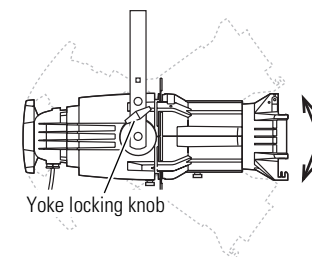

Figure 11
2. Tilt the fixture to the desired position (**Figure 11**).